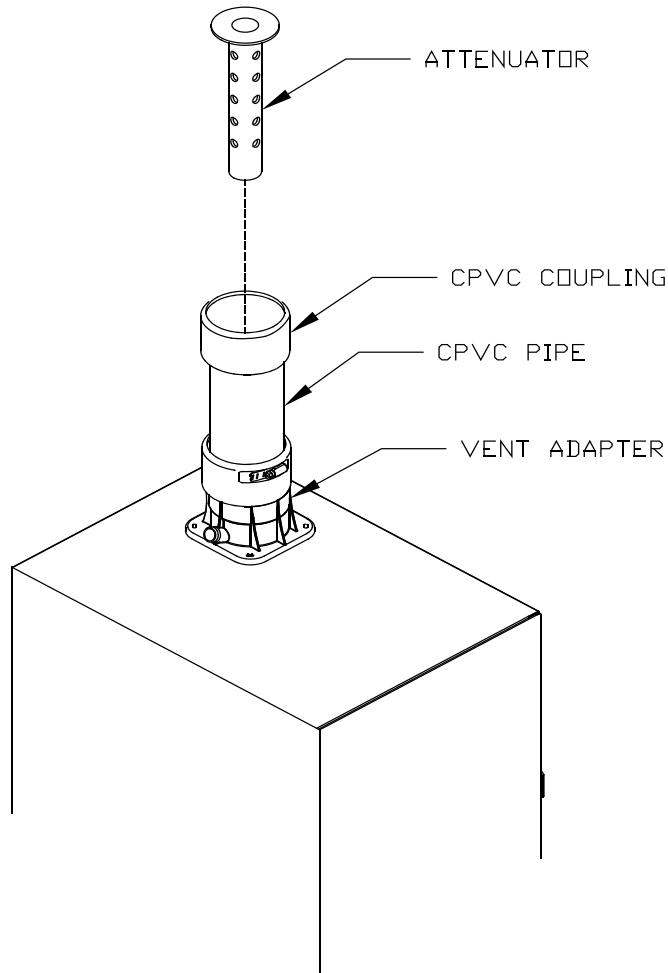

Figure 7.1A: Installation of Vent Side Attenuator
4. Vent Side Noise Attenuator - This boiler comes with a vent side noise attenuator. If equivalent vent length is less than 70 equivalent ft. (3" venting) or 30 equivalent ft. (2" venting), install noise attenuator as described below. Attenuator is not required on sizes 080-120 at altitudes above 2000ft. Refer to Figure 7.1A.